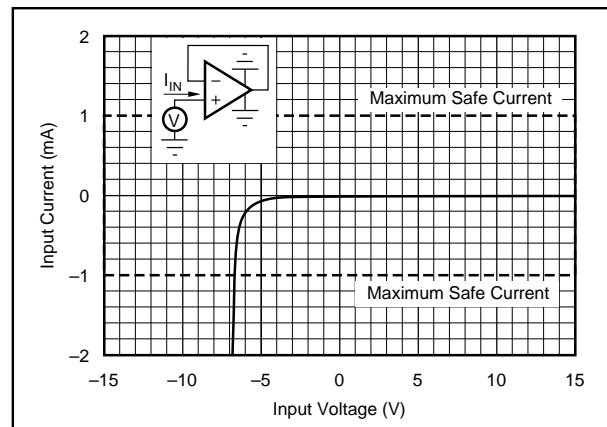

FIGURE 2. Input Current vs Input Voltage with $\pm V_{CC}$ Pins Grounded.
NOTES: (1) Packages must be derated based on $\theta_{JC} = 150$ °C/W or $\theta_{JA} = 300$ °C/W. (2) For supply voltages less than ± 18 VDC, the absolute maximum input voltage is equal to $+18V > V_{IN} > -V_{CC} - 6$ V. See Figure 2. (3) Short circuit may be to power supply common only. Rating applies to +25°C ambient. Observe dissipation limit and T_J .